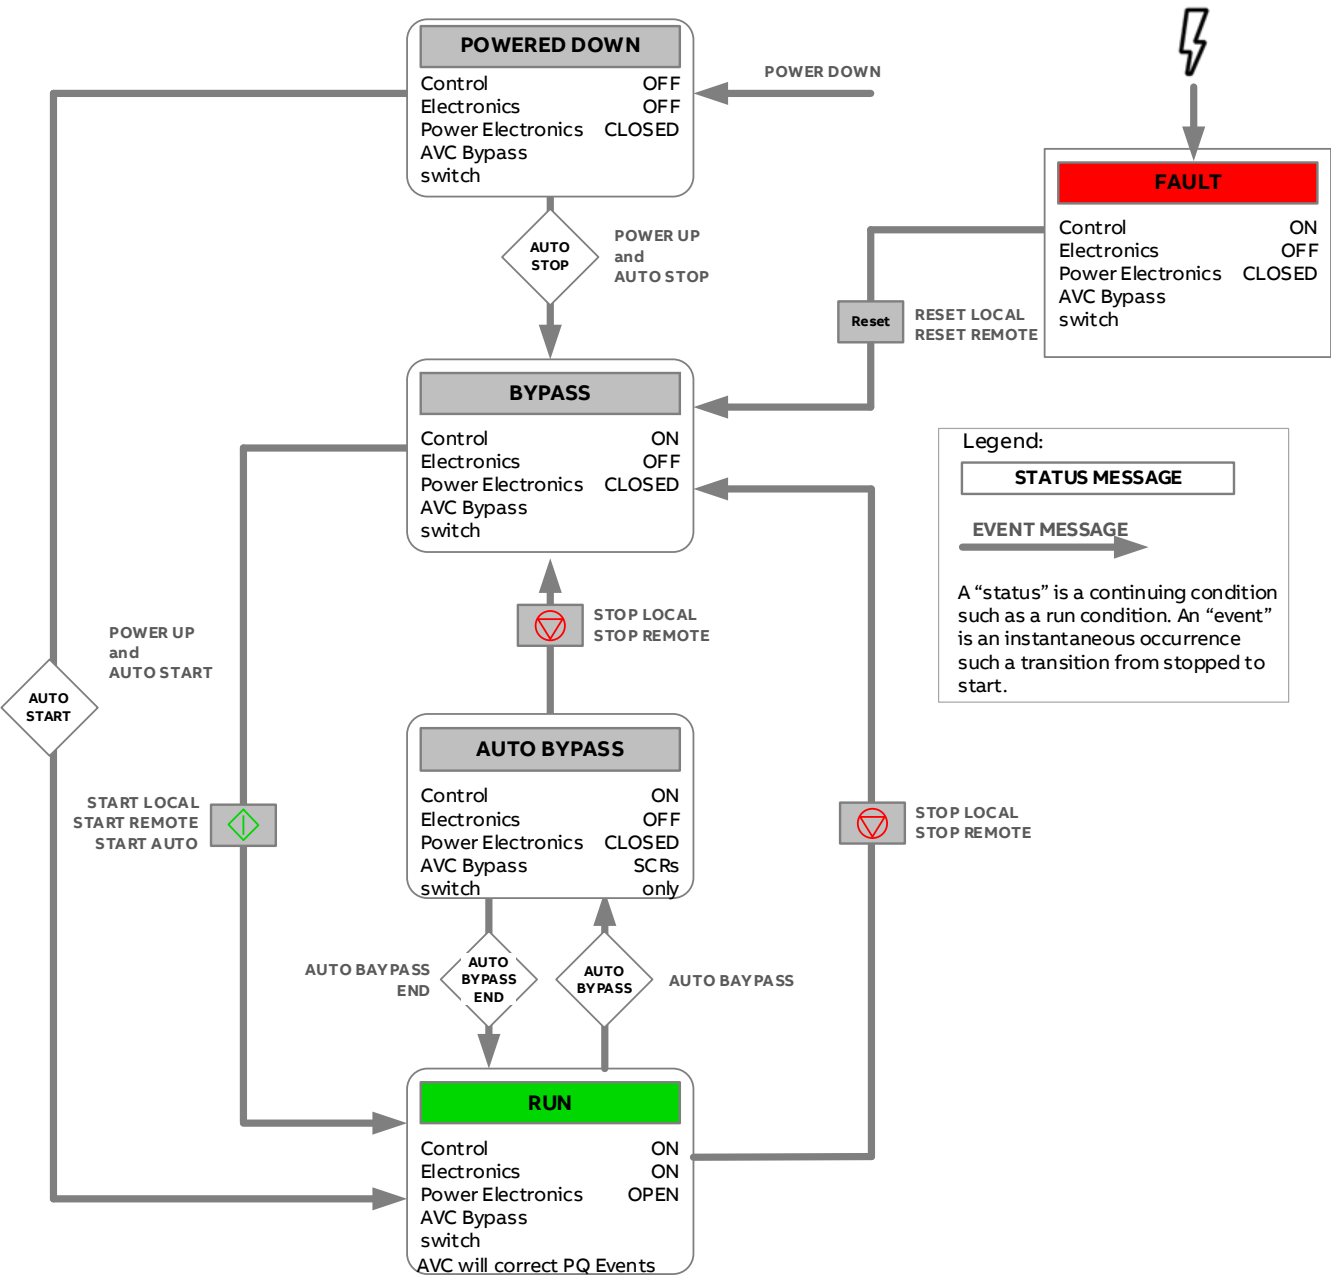

Figure 6-6: PCS100 AVC-20 state flow diagram
1. PCS100 AVC-20 Status. Refer to Table 6-2 for a complete list of status messages. See also Figure 6-6: PCS100 AVC-20 state flow diagram
Figure 6-6 shows PCS100 AVC-20 state flow diagram.